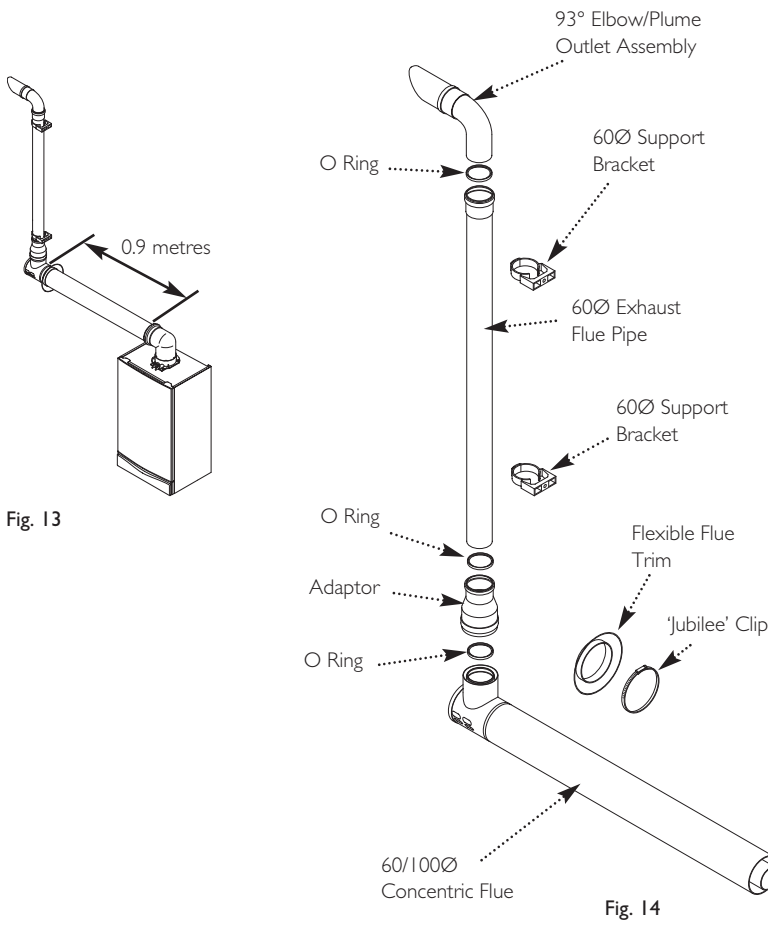

Fig. 14
9.1 Plume Displacement Kit (Fig. 14)